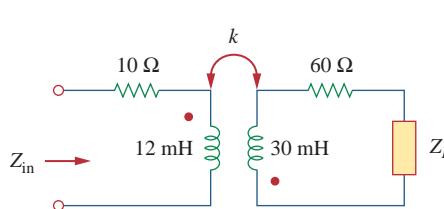

Figure 13.86
13.17 In the circuit of Fig. 13.86, Z_L is a 15-mH inductor having an impedance of $j40 \Omega$. Determine Z_{in} when $k = 0.6$.